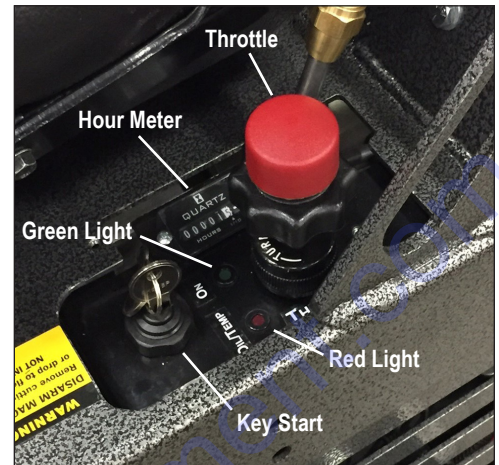

FIG. 10
5. Start with ignition key switch. Both a red & green light will illuminate (Figure 10). As soon as engine starts, the red light will shut off. **Note:** If the red light does not shut off, turn machine off.